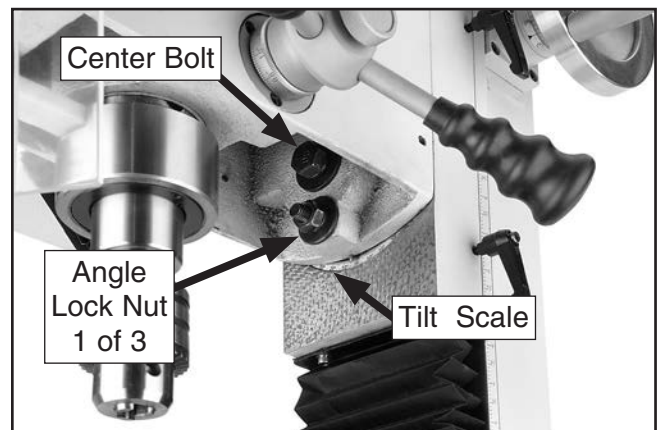

Figure 29. Headstock tilt controls.
2. Support the headstock with one hand, then using the included 17/19mm combo wrench, loosen the headstock center bolt and three angle lock nuts (**Figure 29**).